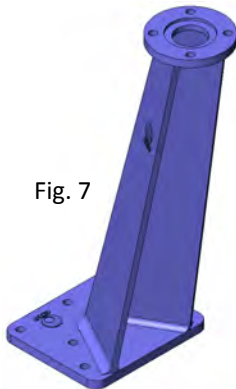

Fig. 7
- Leaning floor stand (Fig. 7)